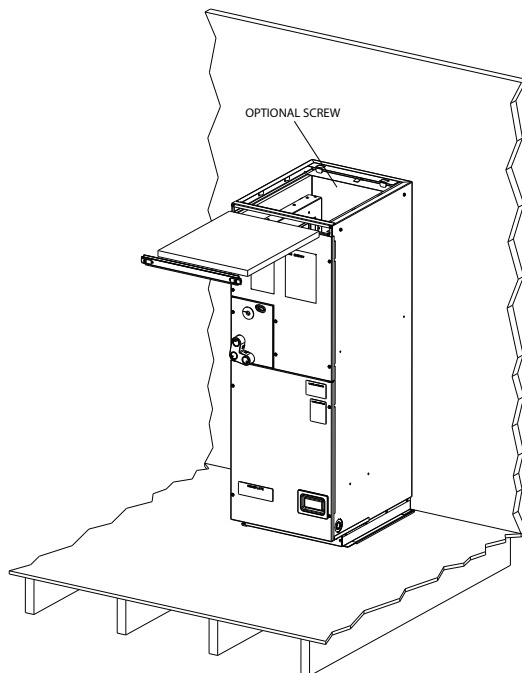

Fig. 13 – Finished Installation with Filter
- 3 If desired, place an optional screw from inside the upper back panel into a stud or backer to add stability. Use a self-tapping screw or drill a pilot hole through the casing and into a stud. See Fig 13.